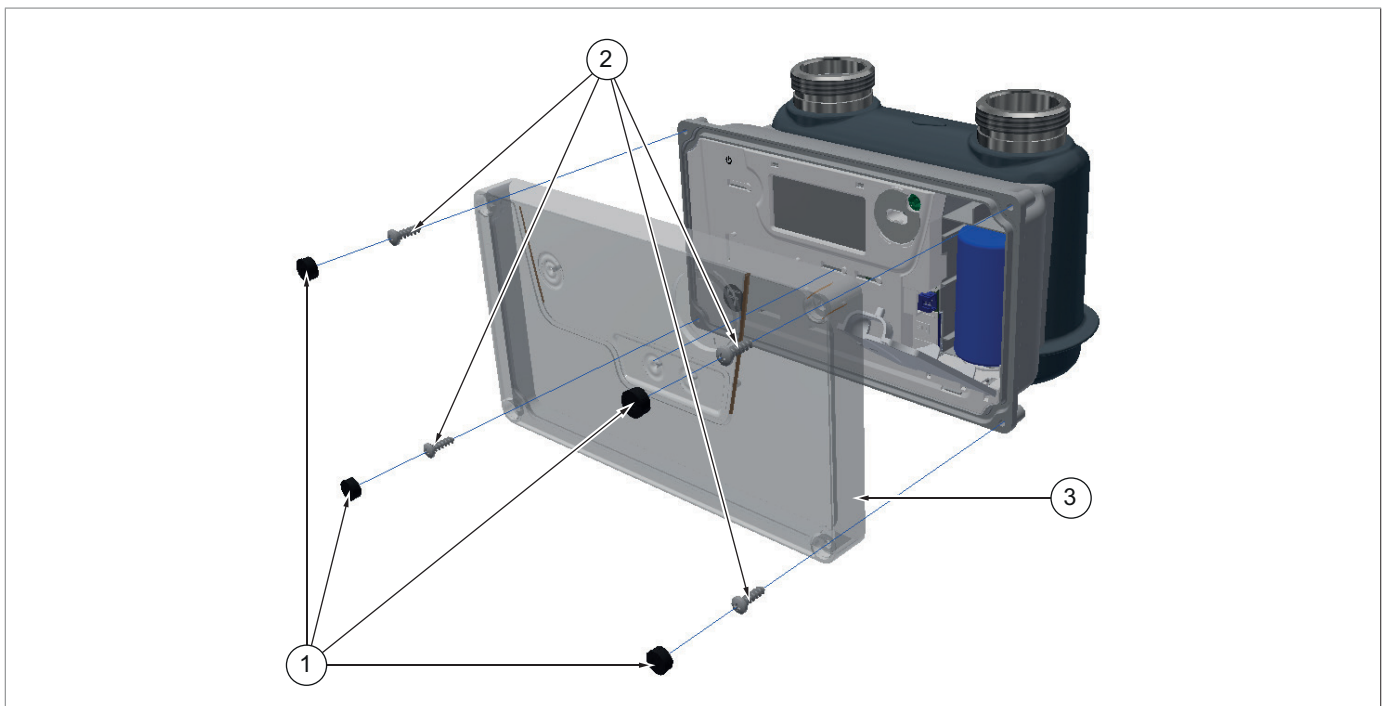

Fig. 11.10. Spare parts
- a position specified in the assembly drawing of the equipment (Fig.11.10.);